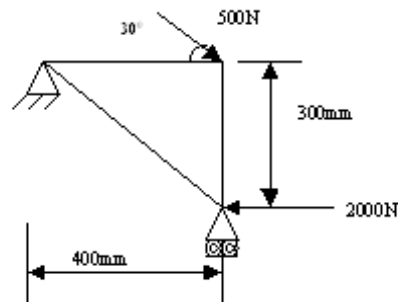

Figure 1:
2. Estimate the displacement vector, stresses and reactions for the truss structure as shown in figure 1. [16]